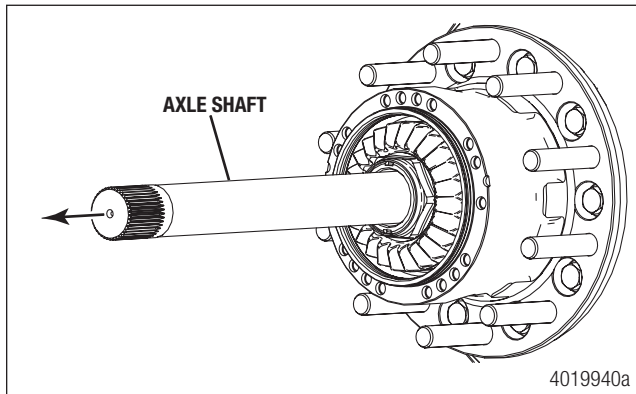

Figure 9
- d. Pull the axle shafts out of the hub and axle housing. Label the location of the axle shafts (left or right side) so they can be reinstalled in the same hub during reassembly. Also label which end of the shaft goes into the carrier. Store the axle shafts in a clean, protected location that will keep them free of dirt and other contaminants. Figure 9.